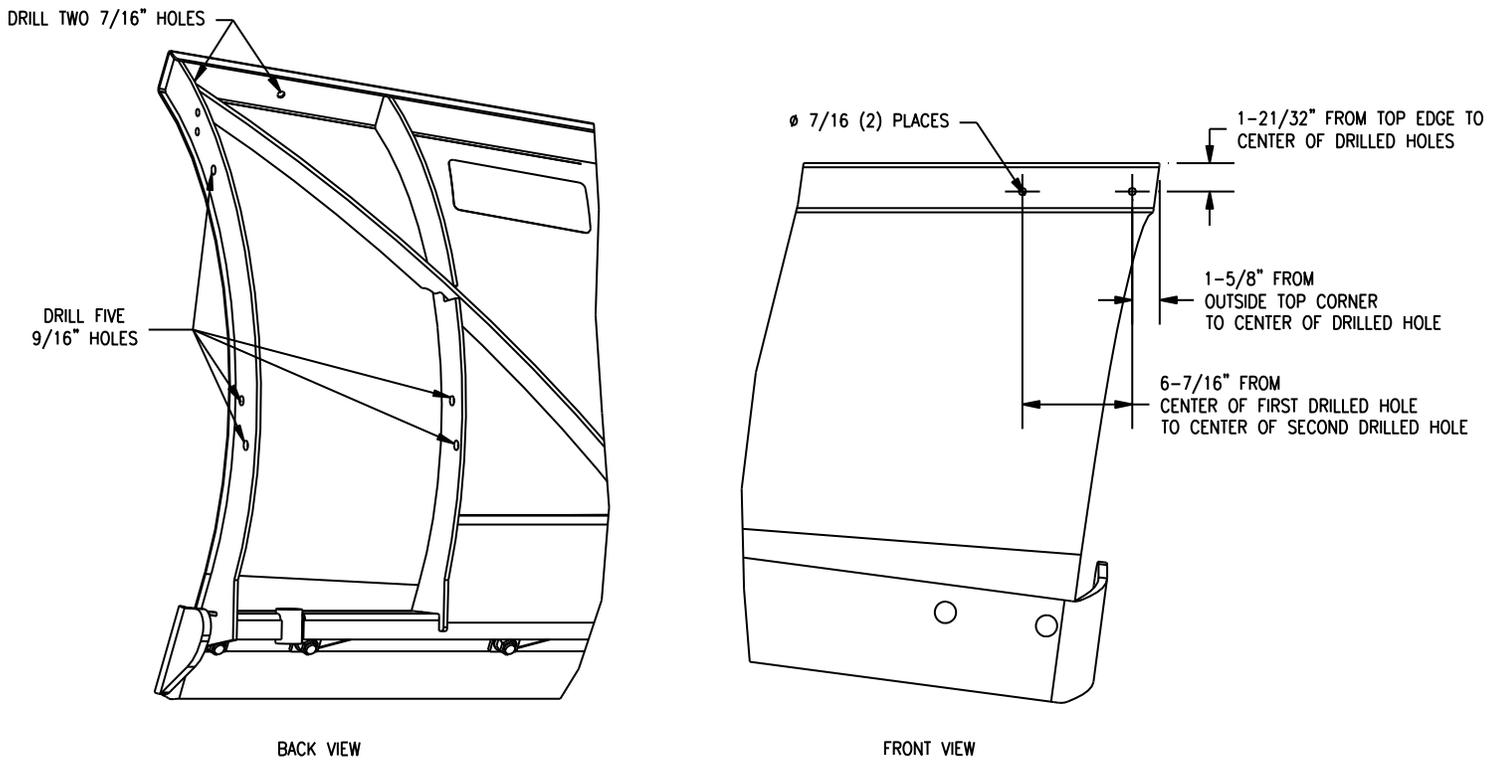

Figure 8. Blade Top Drilled Hole Measurements (INSIDE TOP POLY-V HOLES ARE PRE-CUT)
- 2) On Driver Side of plow, measure, mark, and drill two 7/16" diameter holes in Blade Top. See Figure 8.